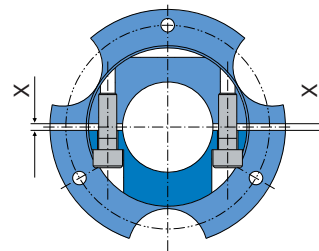

Fig. 117
- Tighten the tensioning screws crosswise in several procedures. Please ensure that the gap "X" on both sides of the hub is the same (Fig. 117).